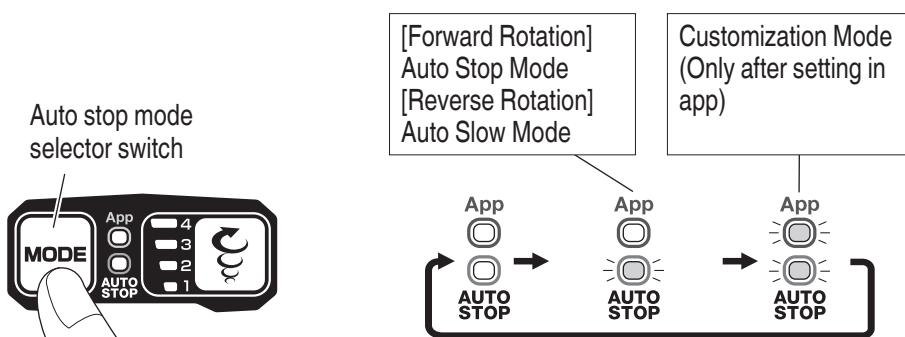

Fig. 16
## (2) Auto stop mode selector switch (Fig. 16)